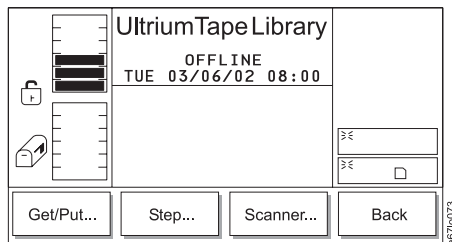

Figure 4-148. Fingers Submenu
4. Press the button below the **Fingers** softkey. The Fingers Submenu displays (see Figure 4-148).